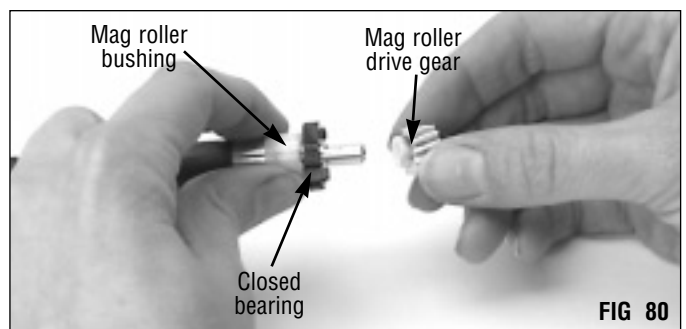

FIG 80
10. Remove the mag roller sleeve bushings, support bearing and mag roller drive gear. (FIG 80)